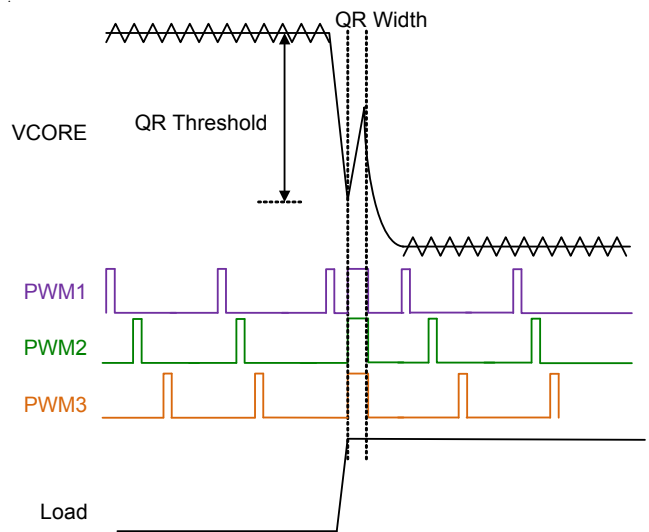
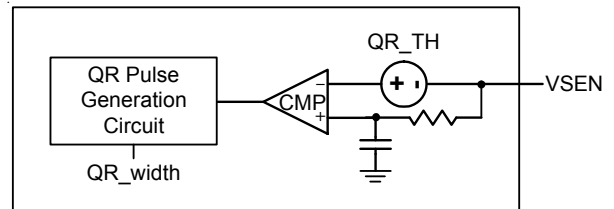

Figure 22. Quick Response Mechanism
Figure 23. Simplified QR Trigger Schematic
When the transient load step-up becomes quite large, it is difficult for loop response to meet the energy transfer. Hence, that output voltage generate undershoot to fail specification. The RT3606BE has Quick Response (QR) mechanism being able to improve this issue. It adopts a nonlinear control mechanism which can disable interleaving function and simultaneously turn on all UGATE one pulse at instantaneous step-up transient load to restrain the output voltage drooping, Figure 22 shows the QR behavior.
The output voltage signal behavior needs to be detected so that QR mechanism can be triggered. The output voltage signal is via a remote sense line to connect at VSEN pin that is shown in Figure 23. The QR mechanism needs to set QR width and QR threshold. Both definitions are shown in Figure 22. A proper QR mechanism set can meet different applications. SET2 can set QR threshold and QR width by internal current source 80μA with multi-function pin setting mechanism.